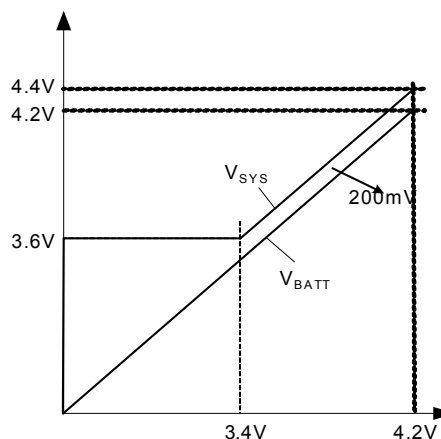

Figure 2 — SYS Regulation Output
- 2) If $BATT < 3.4V$, V_{SYS} is fixed at 3.6V to power the system immediately even when a drained battery is inserted to be charged. Figure 2 shows the relationship of V_{SYS} vs. V_{BATT} .
System voltage can also be regulated to any value between 3.6V to 4.4V by using a resistor divider on the SYSFB pin. This is shown as R6 and R7 in Figure 9. If the SYSFB is left floating, the system program is invalid, and V_{SYS} is regulated as Figure 2.